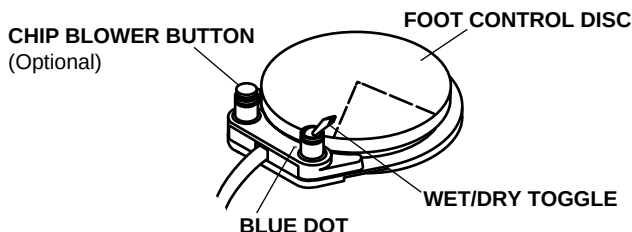

Figure 6. Foot Control
The foot control is equipped with a wet/dry toggle and can be equipped with an optional chip blower button (see Figure 6).
3. Move the wet/dry toggle on the foot control (see Figure 6 on page 6) to the OFF position, away from the blue dot.
3. Move the wet/dry toggle on the foot control (see Figure 6 on page 6) to the ON position, toward the blue dot.